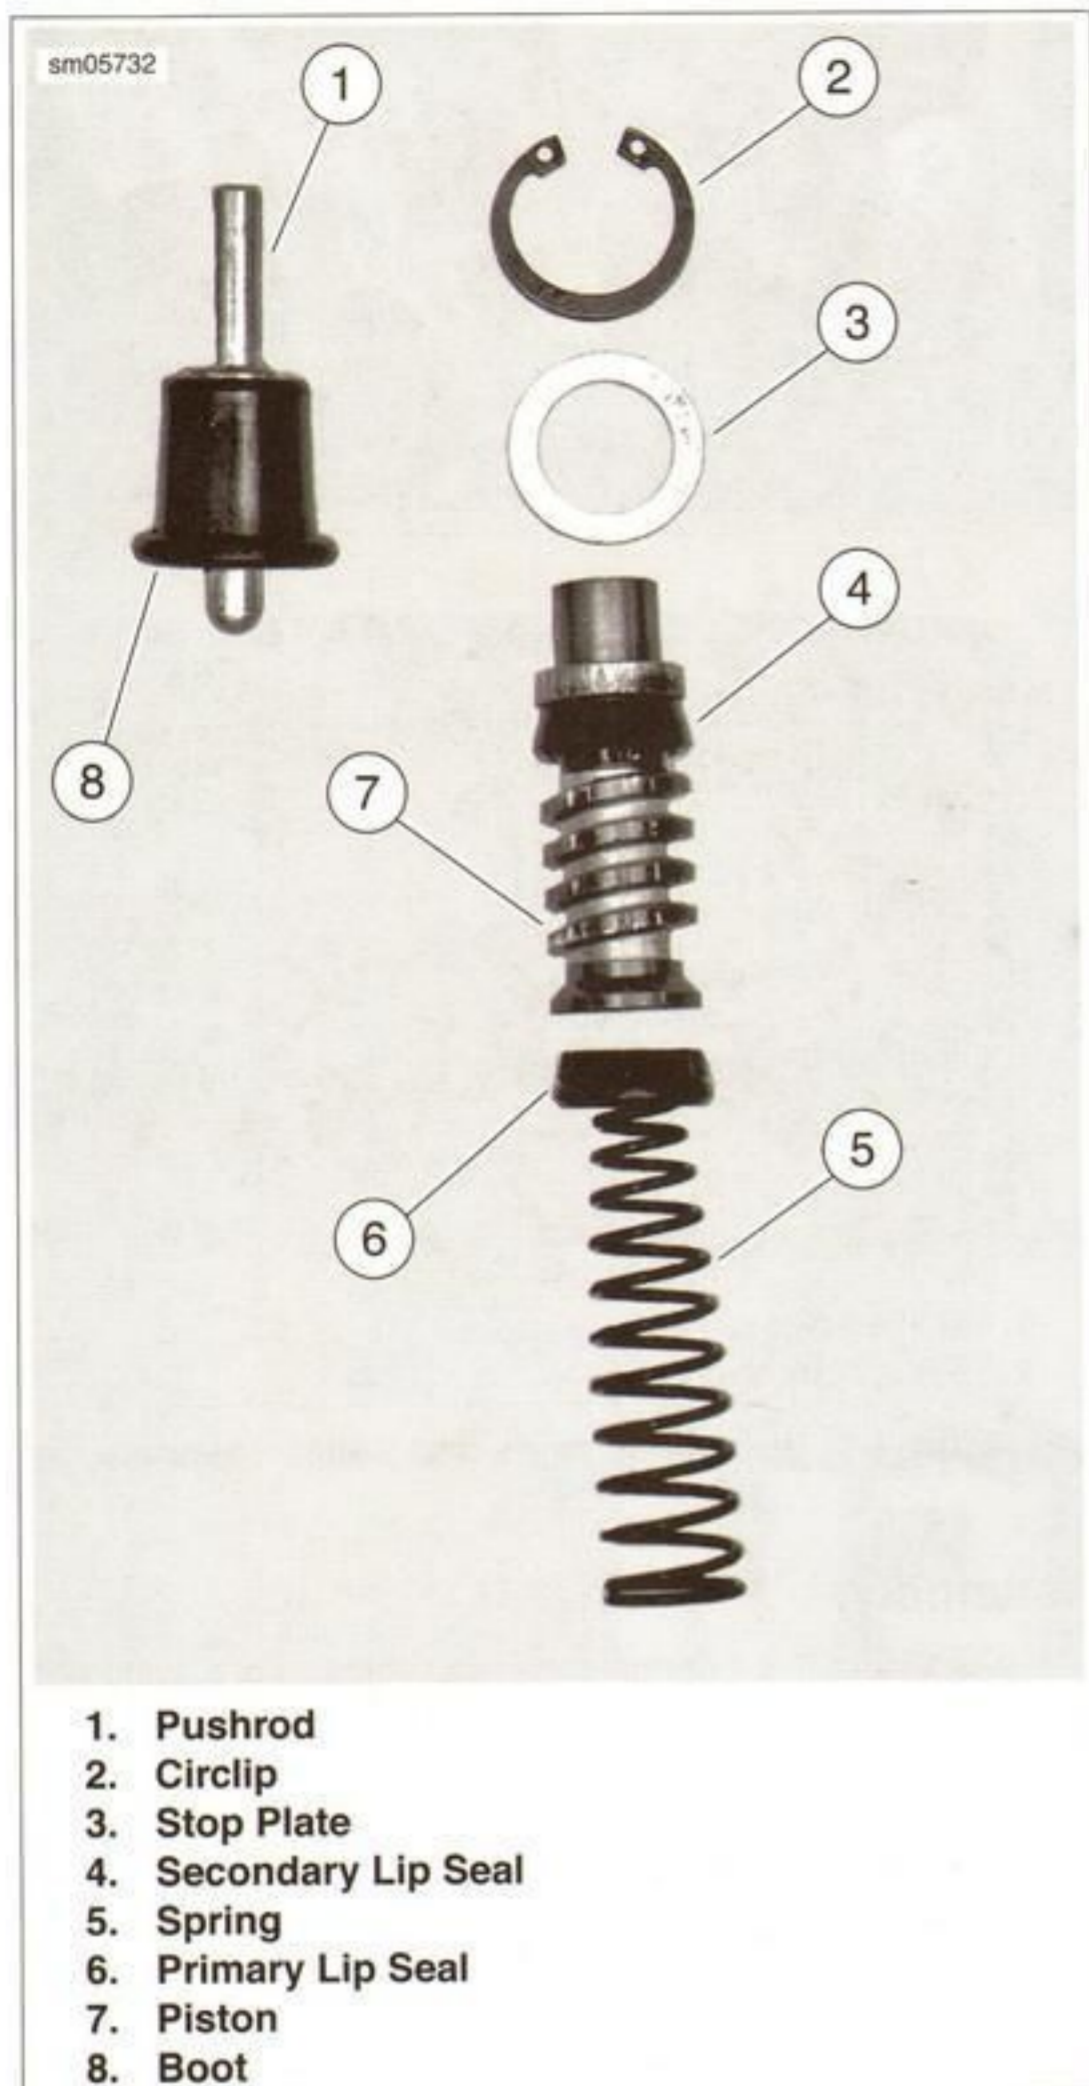

Figure 6-8. Piston Set
1. See Figure 6-8. Lubricate master cylinder bore, piston (7) and piston lip seals (4 and 6) with D.O.T. 4 brake fluid.
2. Install secondary lip seal (4) onto piston.
3. Install primary lip seal (6) to small end of spring (5).
6. Install stop plate (3) onto piston assembly.